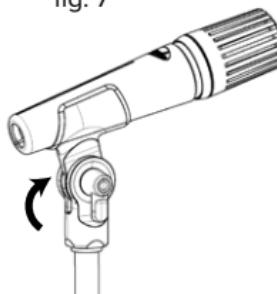

fig. 8
3. Install the microphone under required angle and tighten it by leafed clamping screw (fig. 8)